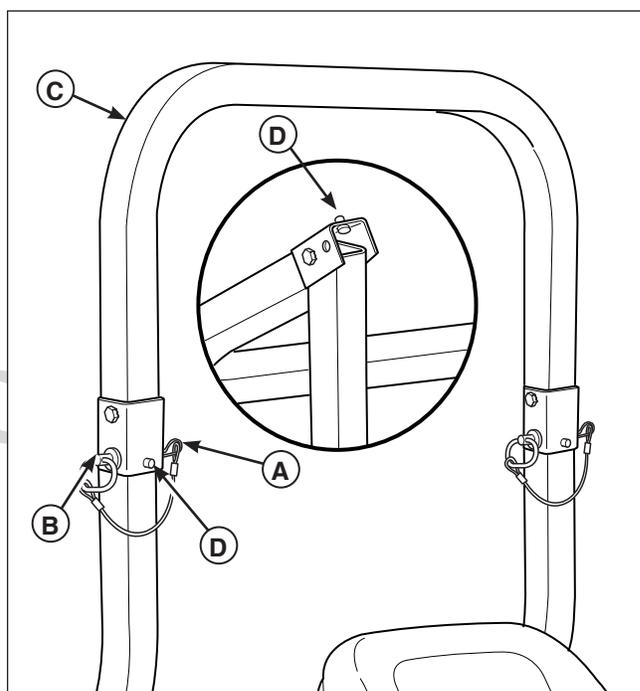
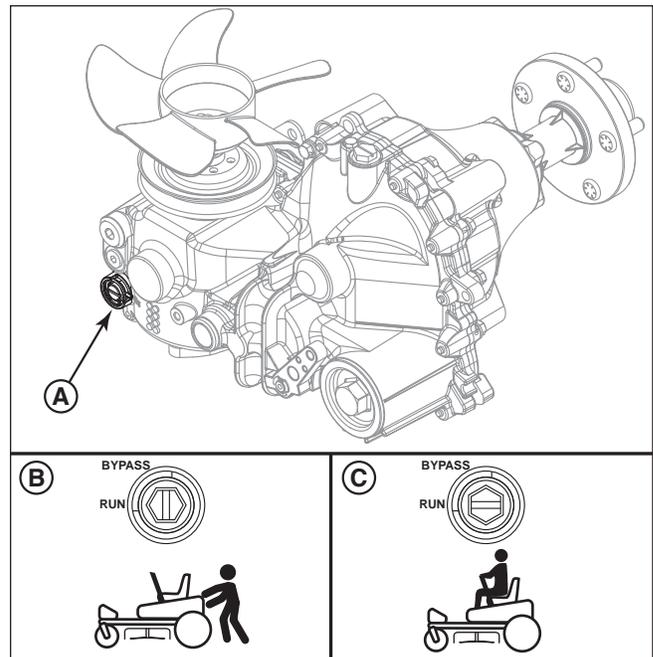

Figure 7. Raise & Lower the Roll Bar
Figure 8. Hydraulic System By-Pass
1. Pull the hair pin clips (A, Figure 7) out of the retainer pins (B).
2. Push or pull the top of the roll bar (C) forward against the rubber stops (D) and remove the retainer pins (B).
3. Lower the roll bar into the down position (see insert, Figure 8).
2. Locate the bypass actuators (A, Figure 8) on the side of the unit's transmissions. There is one bypass actuator on each transmission. The bypass actuator opens and closes the transmission bypass valves.
3. To open the transmission bypass valves rotate the bypass actuator **clockwise** to the "bypass" position" (marked "bypass" on the transmission) (B).
5. After moving the zero-turn rider, close the bypass valves by rotating the bypass actuator **counter-clockwise** to the "run" position (marked "run" on the transmission) (C).